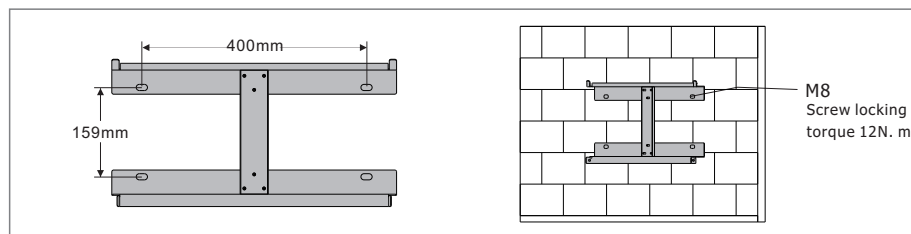

Figure 3.4-1 Install the inverter hanging plate
**Step 1.** Please use the mounting bracket as a template to drill 4 holes in the right positions (10mm in diameter,and 80mm in depth). Use M8 expansion bolts in accessory box and fix the mounting With a 12mm drill bracket onto the wall tightly.The installation of inverter support is shown in Figure 3.4-1.